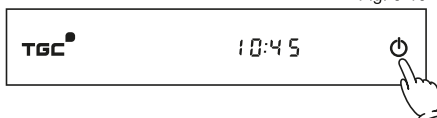

Fig. 6-10
- i.) Press the ON/OFF button for 3 seconds (Fig. 6-10).